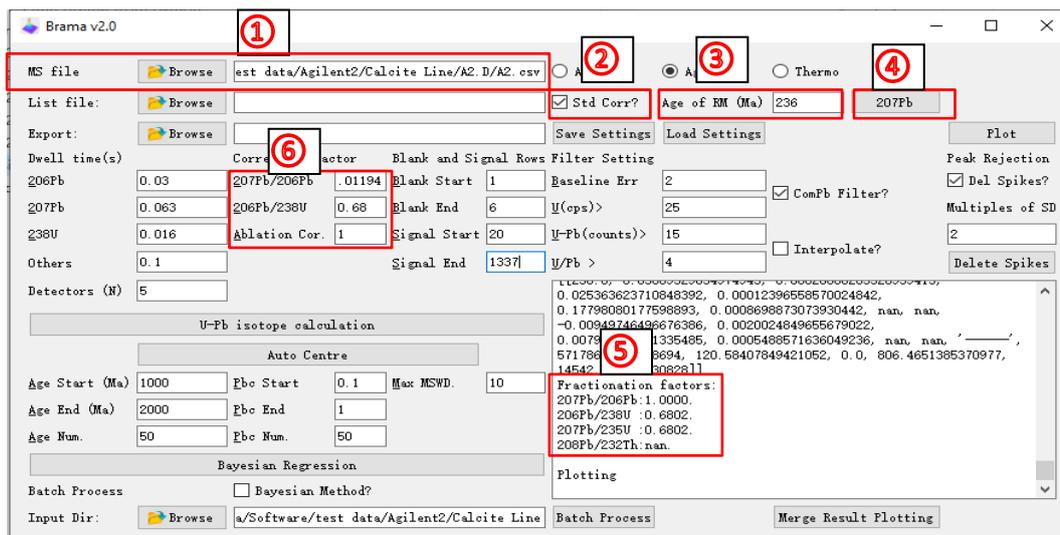

Fig. 1-15 Calculation steps of standard bias fractionation factor for $^{206}\text{Pb}/^{238}\text{U}$
$^{206}\text{Pb}/^{238}\text{U}$ fractionation factor: As Fig.1-15 shows, ①Import the “A2.scv” (AHX) file according to step 1.3.2. ②Check the **Std Corr?** checkbox, ③enter the age in Age of **RM (Ma)**, and click the ④**207Pb** button. The result is displayed in ⑤**Information window**. Fill in the fractionation factor in ⑥ **Correction factor**.